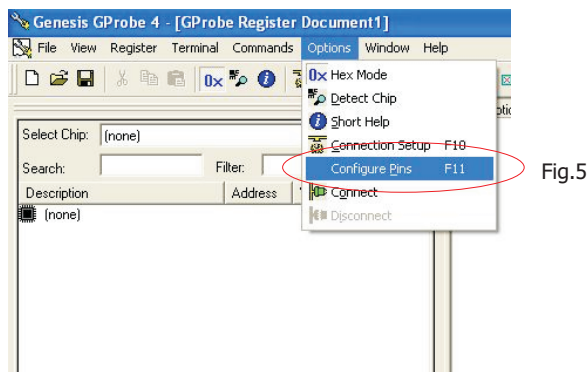

Fig.5
1. Double click the Gprobe.exe icon ,then appears window as shown in Fig.5
2. Press the options then choose configure Pin as shown in Fig.5